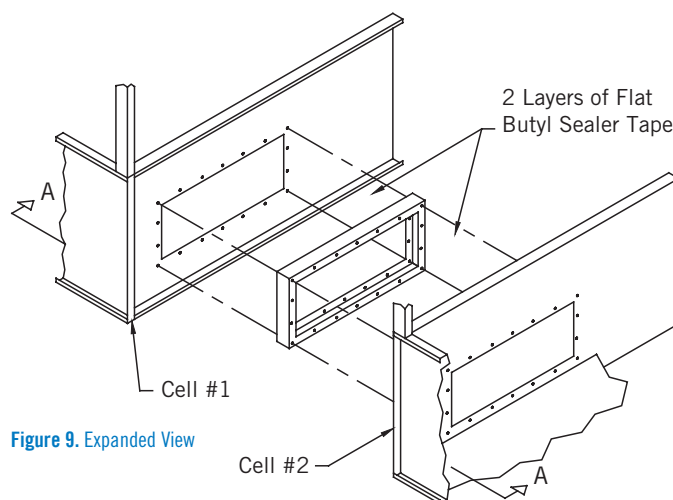

Figure 9. Expanded View
5. Fasten into place as shown in **Figure 9**. For basins with TriArmor® Corrosion Protection System, backing plates are to be installed inside the basin and flume box opening (see **Figure 10, Detail A**). Insert the 3/8” self-tapping screws or bolts in each hole from the flume box into the basin wall and backing strips (if applicable) as illustrated in **Figure 10**.